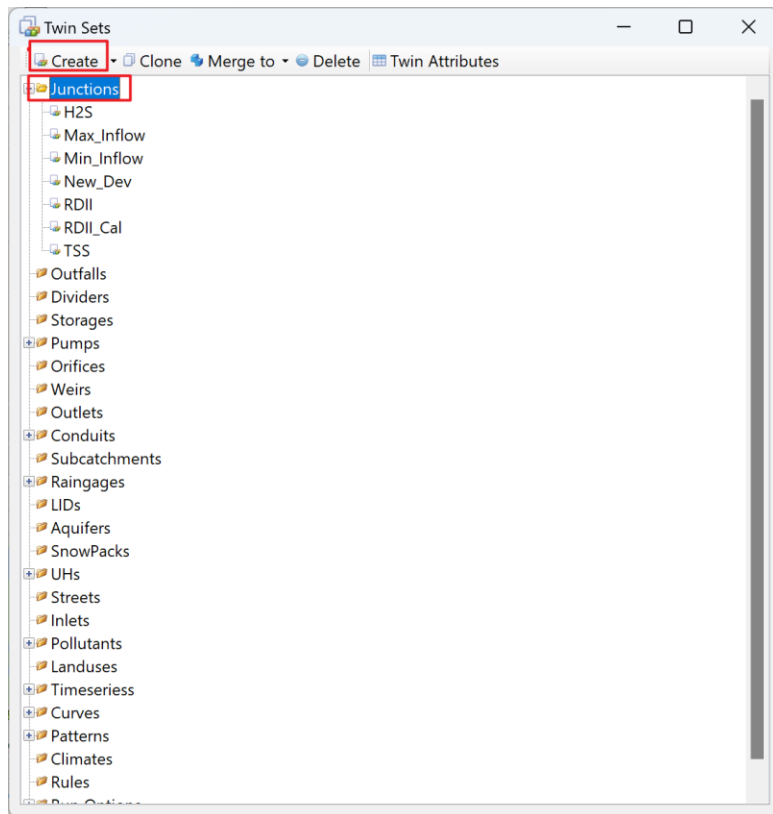

Figure 5: *Twin Sets* in AquaTwin Sewer.
2. For Sewer, the user has the option of creating *Twin Sets* of Junction, outfall, Conduits, Curves, Run Options, etc. A complete list of available Twin Set options is shown in **Figure 5**.